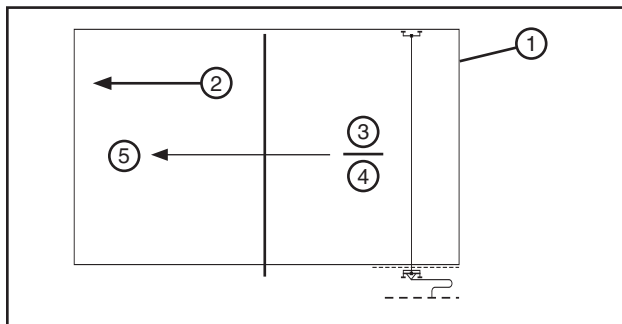

Figure 38-2 1. Field
3. Reverse the system direction, set the percentage timer, and run the system wet or dry back to the original end of the field. See figure 38-2.